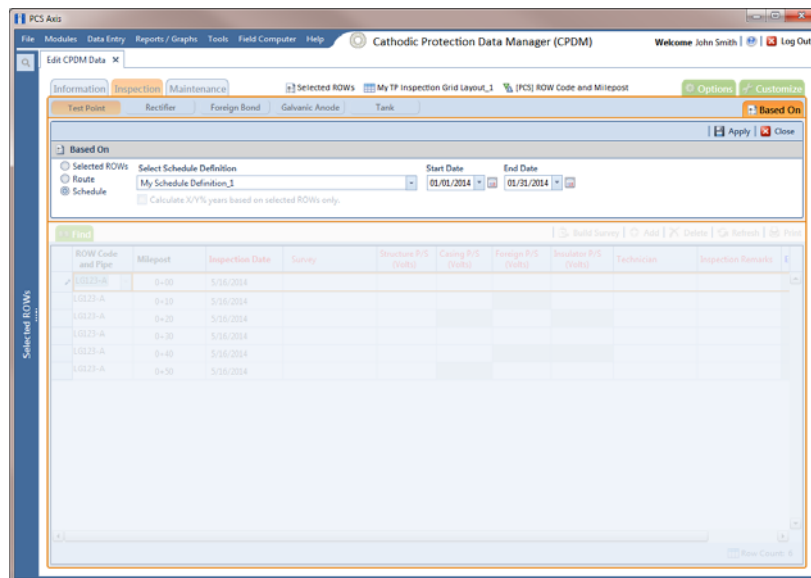

Figure 7-37. Based On Schedule
- 5 Click the **Based On** tab **Based On** and then select **Schedule** (Figure 7-37, page 247).